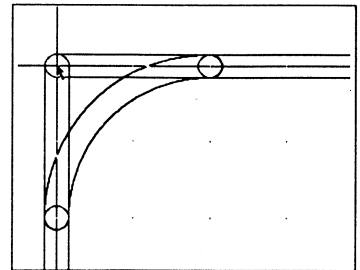

Figure 5-23. Pointer position to delete cut segments.
4. Move the pointer to (0.0000", 0.0000"). The pointer is on the intersection of the left and top cut outline segments (figure 5-23).